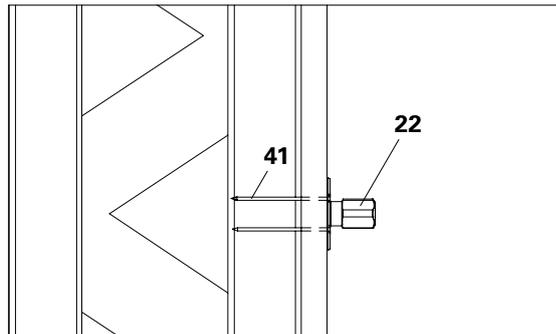

Fig. A5.05
1. Fix the Anchor Positioning Stud M24 (22) to the marked position with 4x wire nails 3 x 80 (41). Take into consideration the minimum distance to the edge. (Fig. A5.05)